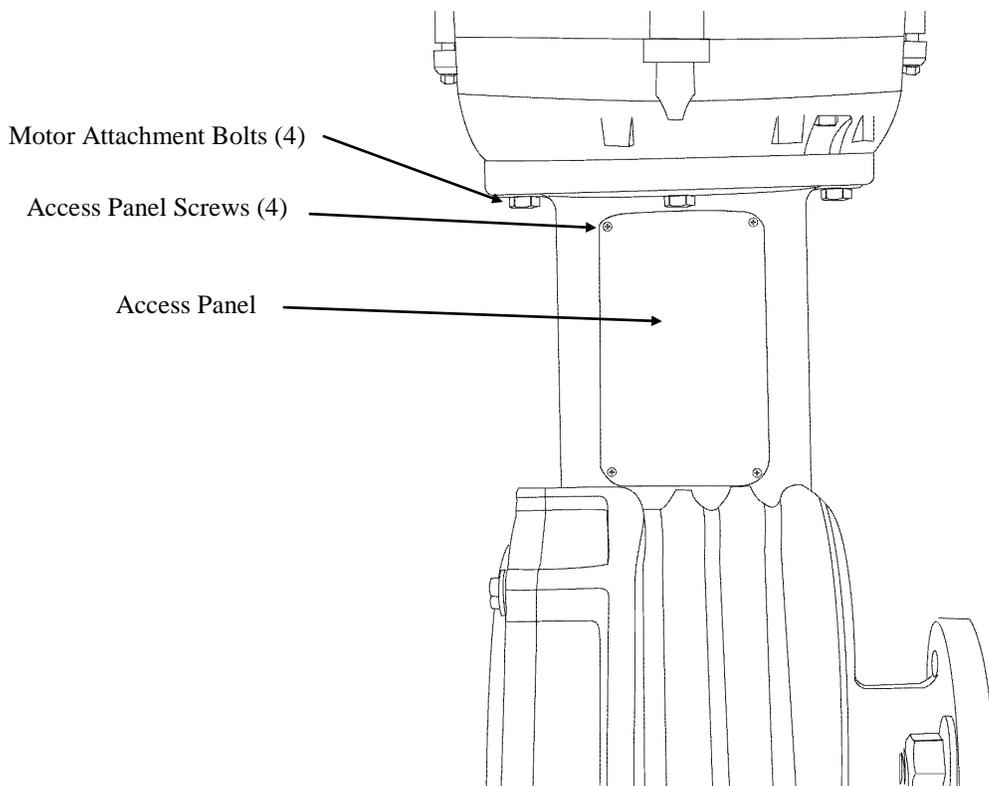

Figure 24
3. Remove the four Motor Attachment Bolts from the motor (refer to *Figure 24*).